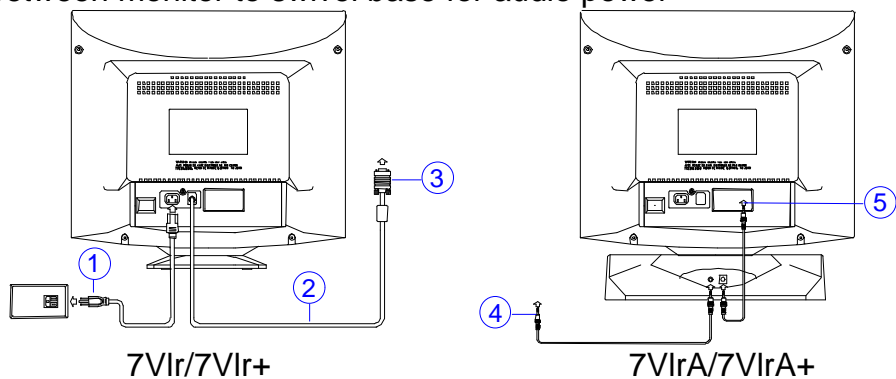

Figure 2 Connecting Cables
**Connecting the Video Cable:** the monitor comes with a built-in video cable. Plug the signal cable's 15-pin connector into the computer's video port and tighten the two screws on the cable connector. (see figure 2)